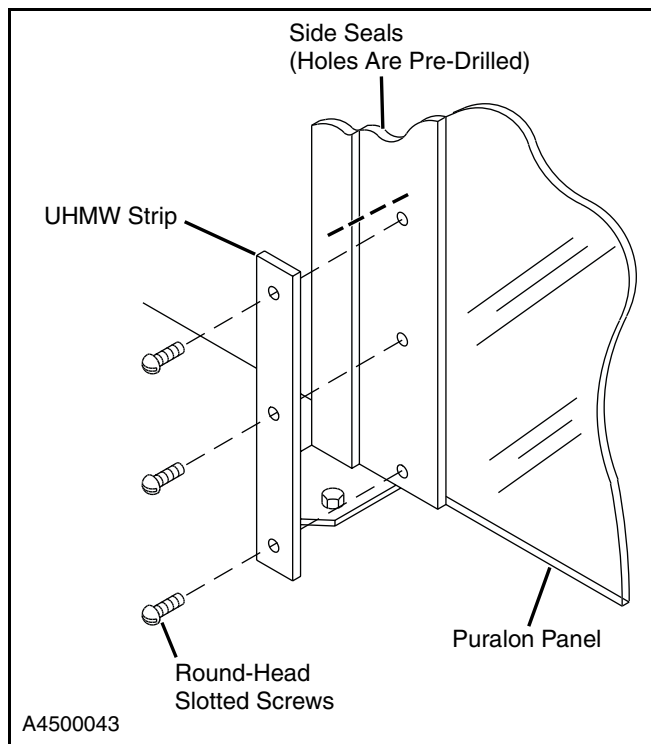

Figure 31
2. Install the UHMW strips to the bottom of the side seals using three 1/4-20 x 1/2-inch round-head slotted screws. (See Figure 31.)